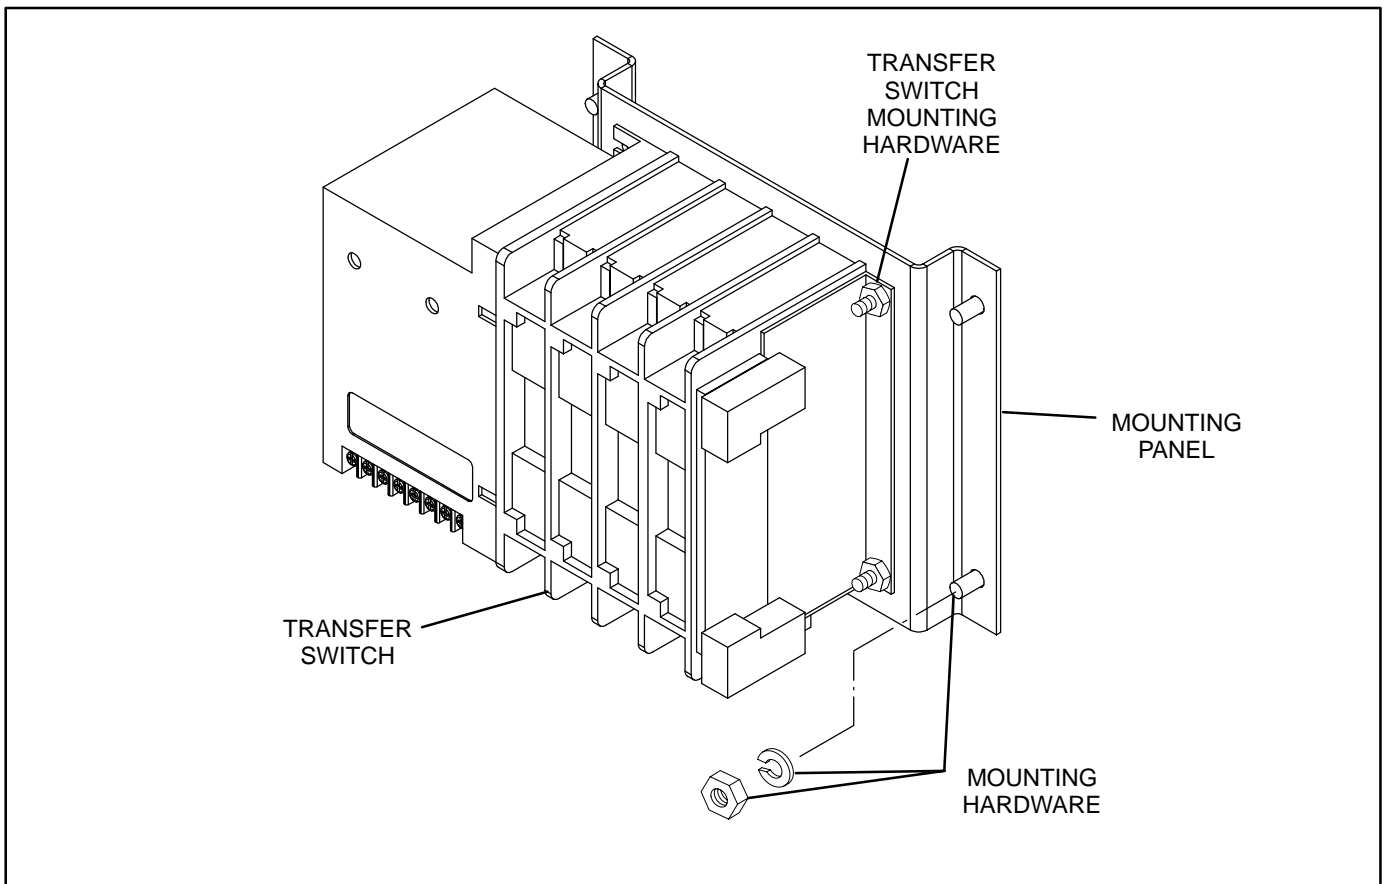

FIGURE 9-1. TRANSFER SWITCH REMOVAL
3. Loosen and remove the four screws, nuts, and washers that secure the switch panel and switch to the rear wall of the cabinet (see Figure 9-1).